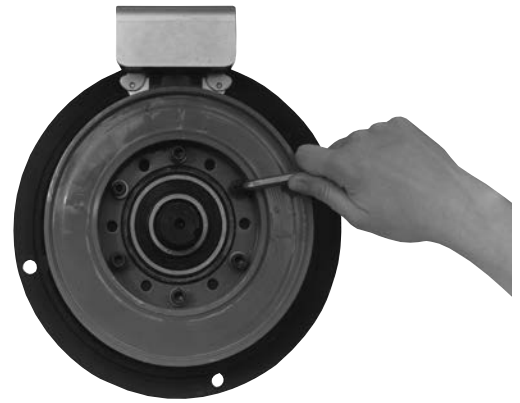

Figure 2
- c. The field assembly is then fastened in place with capscrews and lockwashers. (Figure 2)